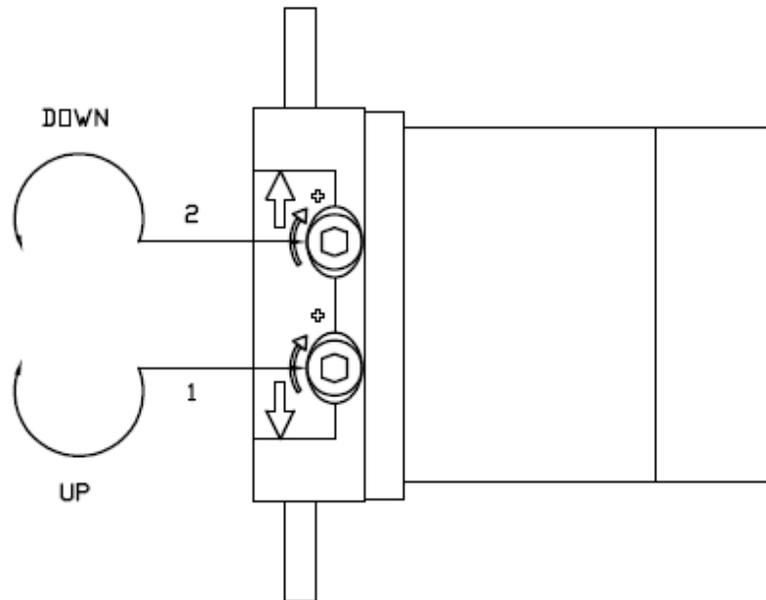

FIGURE 5
11. Identify the limit switch adjusting screws (1) corresponding to up direction and (2) for the down directions. (See Fig. 5). The arrow on the limit switch refers to the direction of rotation of the roller tube. The top knob controls the bottom limit switch and the bottom knob controls the top limit switch.